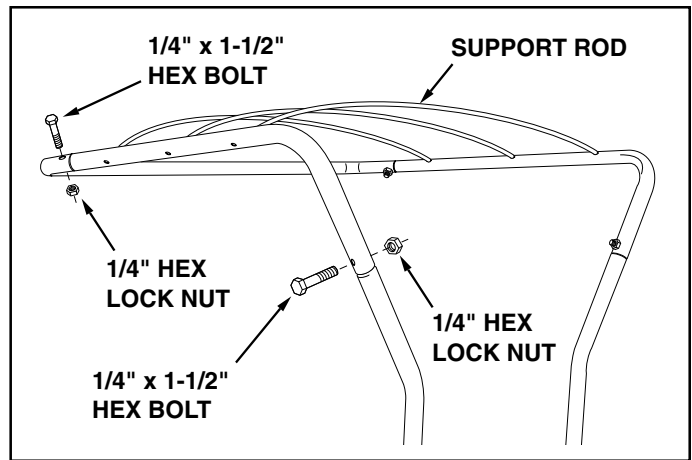

FIGURE 7
12. Assemble the top tubes to the upright tubes using two 1/4" x 1-1/2" hex bolts (from outside) and two 1/4" hex lock nuts (inside). **Do not tighten yet.** See figure 7.
Tighten all loose bolts. See figure 7.
14. Fit the three support rods into the holes in the top tubes, with the rods arching upward. **Do not** over bend the rods when installing. See figure 7.